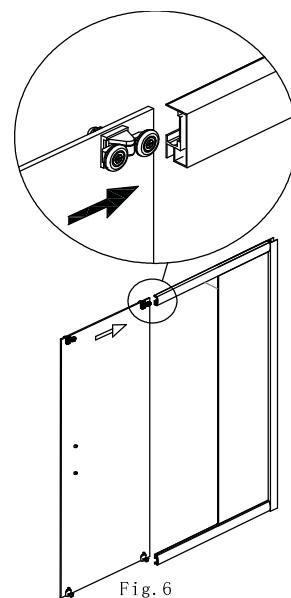

Fig. 6
Put the sliding door with installed wheels (9) into the rail correspondingly. As Fig. 6